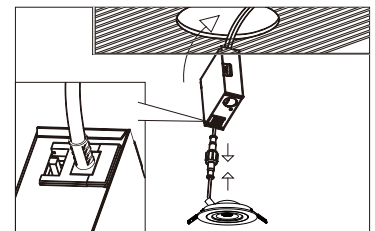

FIG. 4
3. Connect downlight to junction box. Select your favorite color temperature by using the 5CCT switch on the junction box. Place junction box into the ceiling. (Fig. 4)